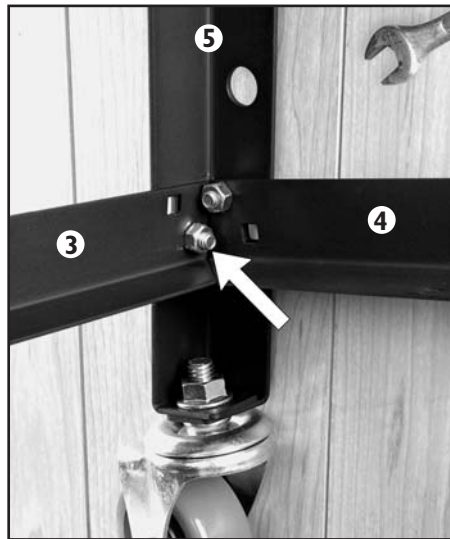

Fig. 8
8. Follow the same procedure as above to attach the Lower Front Stretchers (3) to the left and right leg - again, using the bolt hole closest to the inside corner of the legs. **Fig 8 & 9.**